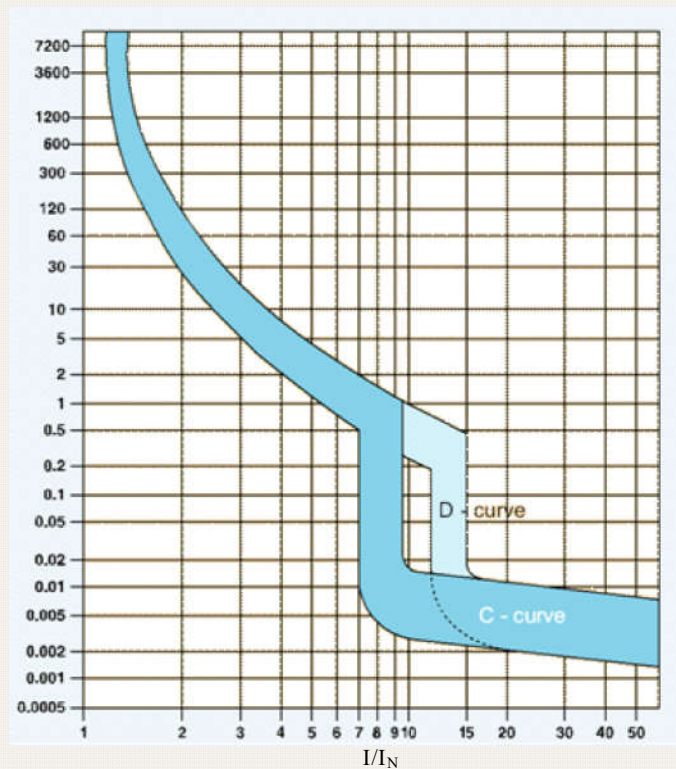

figure 5. – www.clipsal.com
4. Draw on figure 5 a line to show the multiple of rated current. Will the circuit breaker operate (trip), if so in what time? Y / N	Max _____ Min _____